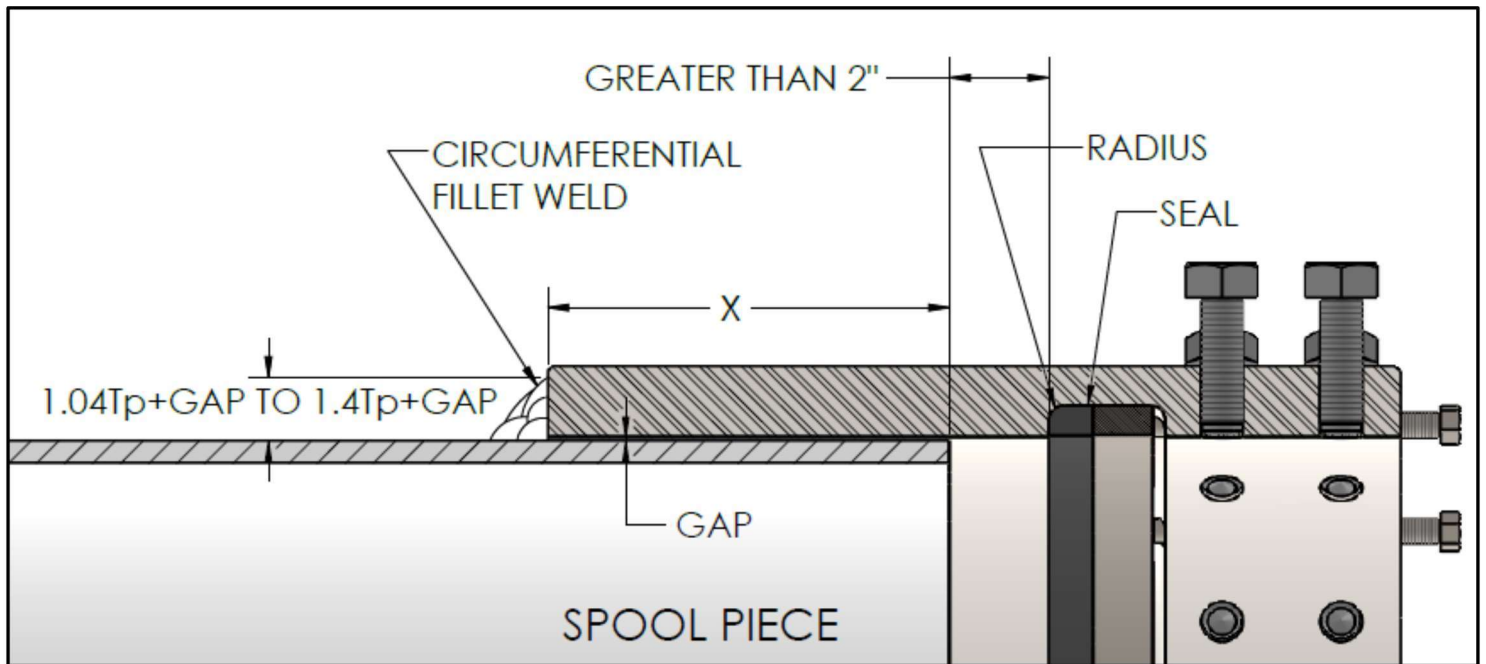

Figure 3
1. Insert the new spool piece into the socket end of the Riser Weld+End as shown in Figure 3. At a minimum, the pipe end must be inserted into the socket weld end of the Riser Weld+End the greater of either four times the pipe wall thickness, or 2" (51 mm). Refer to the "X" dimension as shown in Figure 3.
3. Remove the elastomeric seal to avoid damaging the seal while welding the Riser Weld+End to the spool piece. When replacing the seal after welding, it must be positioned on the inside of the metal thrust ring. Also note the placement of the radius on the seal as shown in Figure 3. DO NOT place the seal back in until the fitting has cooled down to under 100° F.